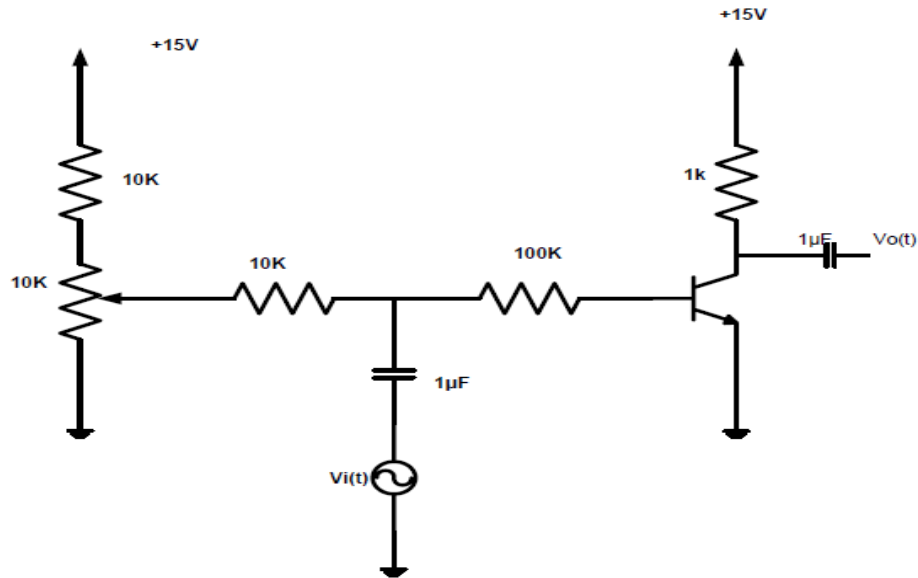

Figure 5
1. The circuit in Figure 5 was connected